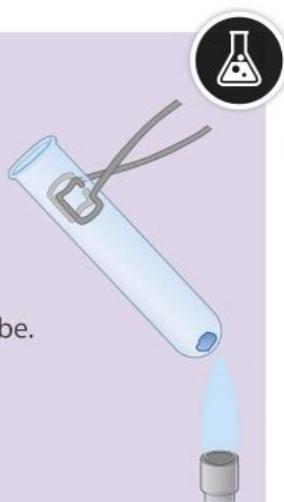

Figure 3 Heating hydrated copper(II) sulfate
Gently heat a few copper(II) sulfate crystals in a test tube (Figure 3). Observe the changes. When the crystals are completely white, allow the tube to cool to room temperature (this takes several minutes). Add two or three drops of water from a dropper and observe the changes. Carefully feel the bottom of the test tube.